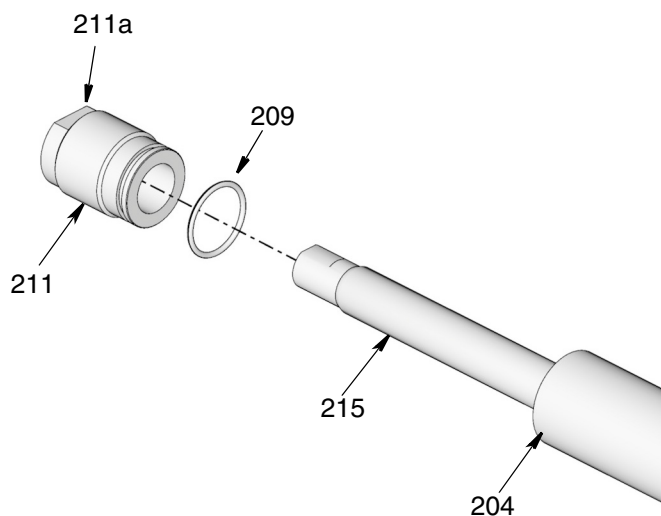

FIG. 28
17. Use a wrench on the flats (211a) of seal retainer (211) and a second wrench working in the opposite direction, on the flats of priming rod (215), to loosen and remove adapter and o-ring (209) from pump cylinder (204) (FIG. 28). Discard o-ring. Use the new o-ring included in the kit for reassembly.